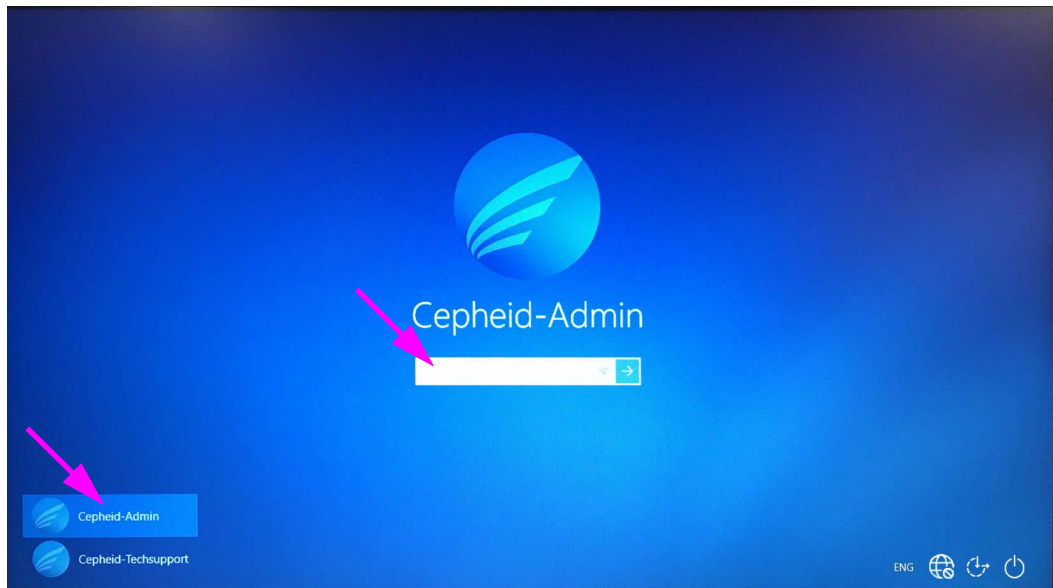

Figure 5-2. Windows 10 Account and Password Screen
3. On the Windows Account screen, select the **Cepheid-Admin** user account (see Figure 5-1 and Figure 5-2).
- On Windows 10, the Cepheid user account password field appears. See Figure 5-2.
The GeneXpert Dx system computer is configured with two Windows accounts. The **Cepheid-Admin** account is for administrator tasks such as software updates, system configuration and for normal operation; and the **Cepheid-Techsupport** account is for use only by Cepheid Technical Support. See Figure 5-2.
4. On the Windows Password screen (Figure 5-2), enter the password assigned by your system administrator.